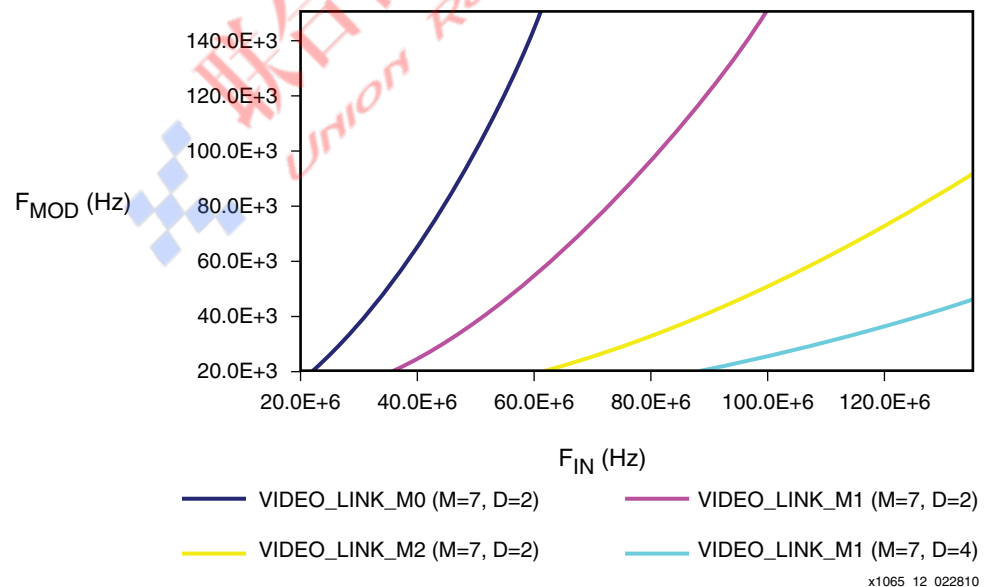

Figure 12: Modulation Frequency vs F_{IN}
As the input frequency continues to increase to 105 MHz, DCM_CLKGEN can no longer support $M = 7$ and $D = 2$. As described in the Example: LVDS for Video Clock Frequencies Beyond 105 MHz section, the reference design can be adjusted to support CLKFX_MULTIPLY(7) and CLKFX_DIVIDE(4). The increase in CLKFX_DIVIDE causes the modulation frequency to slow down. To compensate, use VIDEO_LINK_M1. The result is the $M1_{74}F_{MOD}$ in Figure 12.